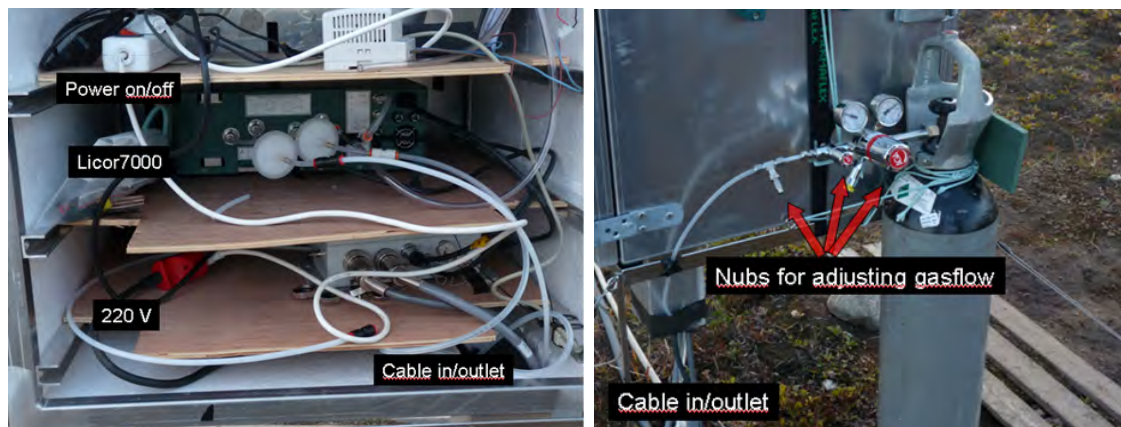

Figure 63: A look into the enclosure from the Back (left) Gas supply for the Licor7000 (right).
3. Switch on the external pump on the (On/Off) switch (Fig. 63).
1. Switch off the external pump on the (On/Off) switch (Fig. 63).
4. Check the flow rate of the incoming nitrogen gas (see Fig. 63). On the backside of the Licor7000 an outlet tube from cell A leads out to the open air. There should always be a continuous flow from the tube of about 1-2 bobbles per second. Bring a small bottle with water (can be left in the enclosure, as long as the air temperature is above freezing) and insert the outlet tube from cell A into the water. Allow bobbles to escape through the water by orientating the outlet horizontally or slightly upwards inside the bottle. Notice the time on your watch, count 20 bobbles and look at your watch again. If 10-20 seconds have passed the air flow is fine, if not adjust the nubs on the nitrogen gas bottle just next to the enclosure. Allow the flow to stabilize for a couple of seconds, before performing the bobble test again. Repeat this exercise until the gas flow is correct. During the main field season this should be done every third day or whenever great changes in temperature occurs. In the outer seasons it might be necessary to do it every day, because the gas flow is very sensitive to great changes in below 0 degrees Celsius temperatures. Also note the amount of gas content in the gas bottle. If the gas flow is optimal, the consumption of gas should be around 20 bar/month.
3. Connect a new filter to the tubes. Make sure the tube covers the filter branch completely and that the filter is installed so inlet/outlet is in the right direction according to the direction of the air flow (Fig. 63).